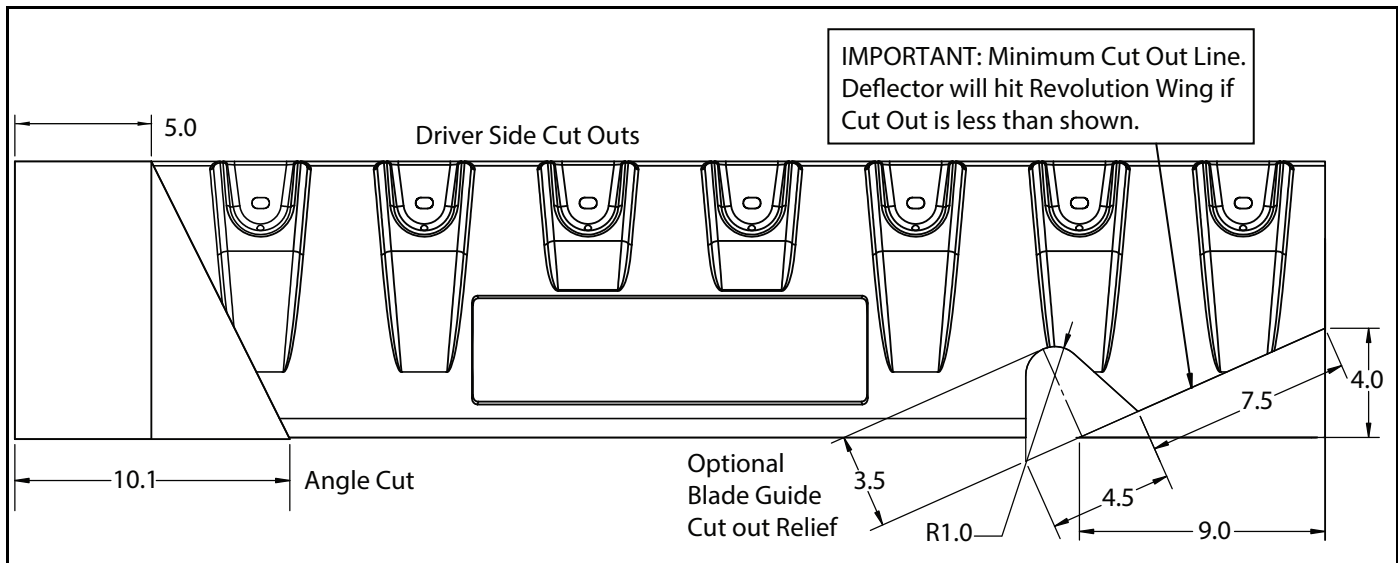

Figure 5
- **Driver Side**: Repeat the angle cut for the inner end cut and outer end cut for driver side deflector (See Figure 5).